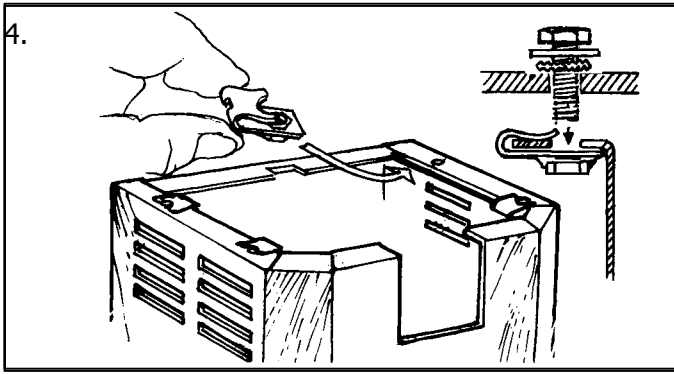

Figure 4 Installation of Cage Nuts on Pedestal
3. Clip Cage Nuts to top of pedestal matching holes (See Fig. 4).